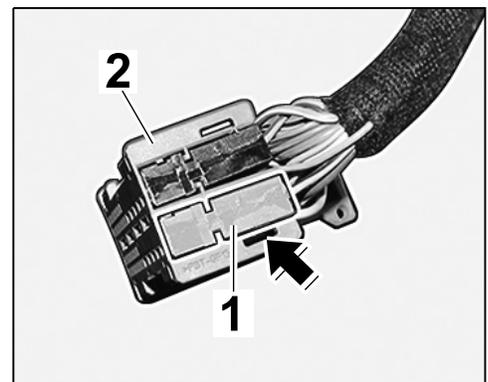

Figure 16
- 2.5.6 Push grey plug socket ⇒ *Figure 16 -1-* into the plug carrier ⇒ *Figure 16 -2-* until the locking mechanism ⇒ *Figure 16 -arrow-* engages.